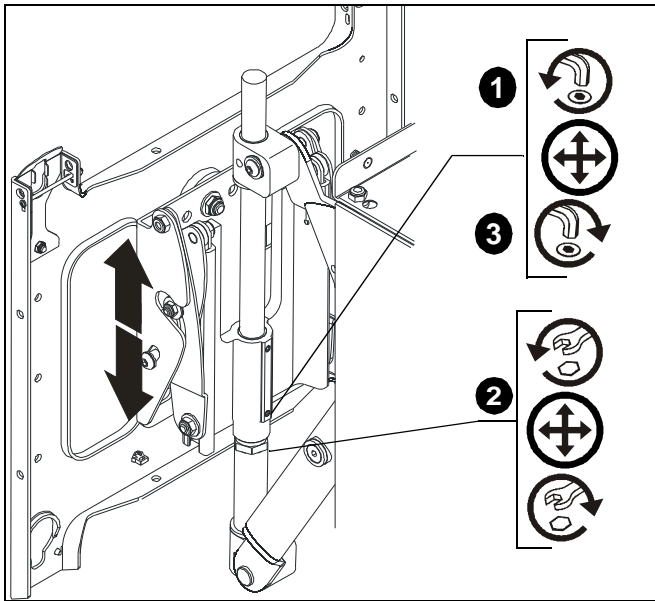

Figure 17
1. With display installed, loosen adjustment locking screw using hex wrench. (See Figure 17)
2. Adjust display height by turning adjustment nut in desired direction. (See Figure 17)
3. Tighten adjustment locking screw when display is at desired height. (See Figure 17)